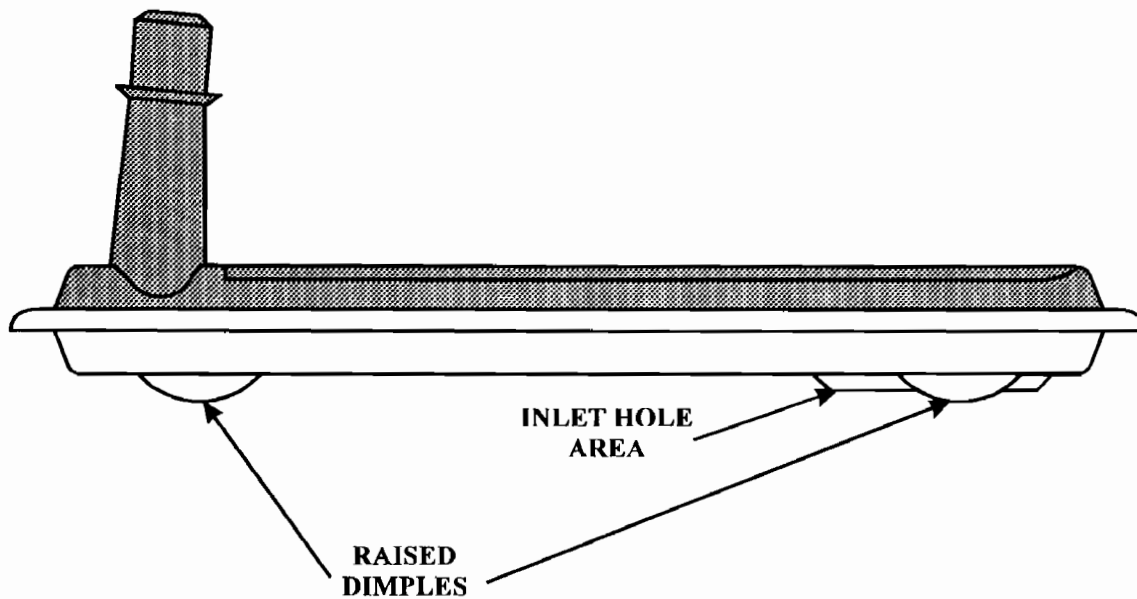

Figure 3
- (2) **OIL FILTER** - The new design oil filter has an inlet which extends deeper into the sump, and four raised "Dimples" to retain the oil filter in the filter neck seal. We have provided illustrations of the bottom of both oil filters in Figure 2, and illustrations of the oil filter profile in Figure 3, for purposes of identification.